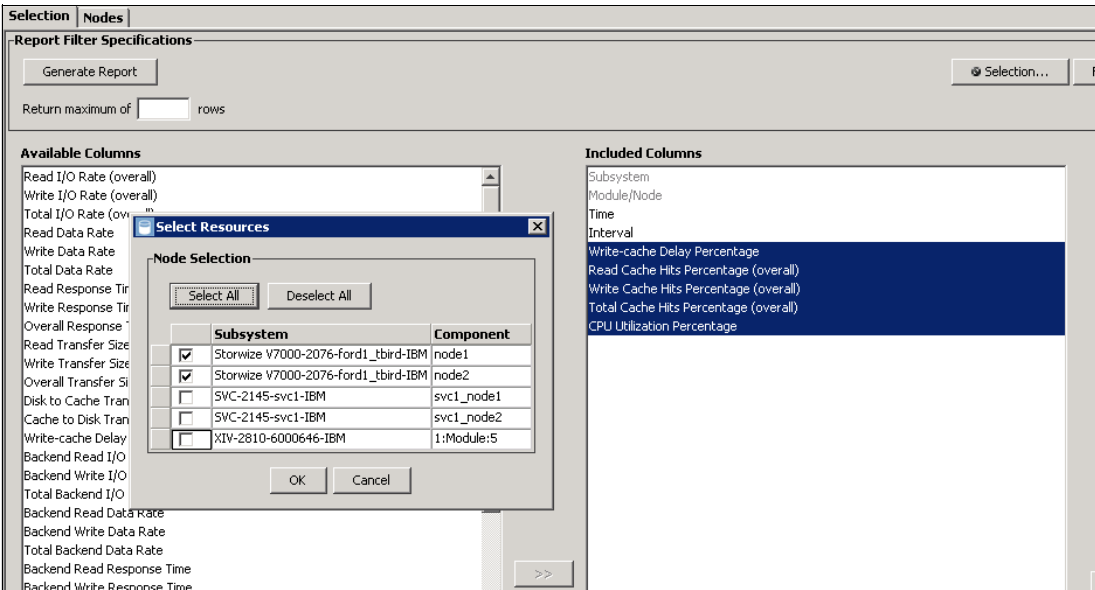

Figure 13-49 Storwize V7000 multiple metrics Cache selection
1. In the Selection window (as shown in Figure 13-49), move the percentage metrics that you want include from the Available Column to the Included Column. Then, click **Selection** to select only the Storwize V7000 entries.
Figure 13-49 shows an example where several percentage metrics are chosen for Storwize V7000.